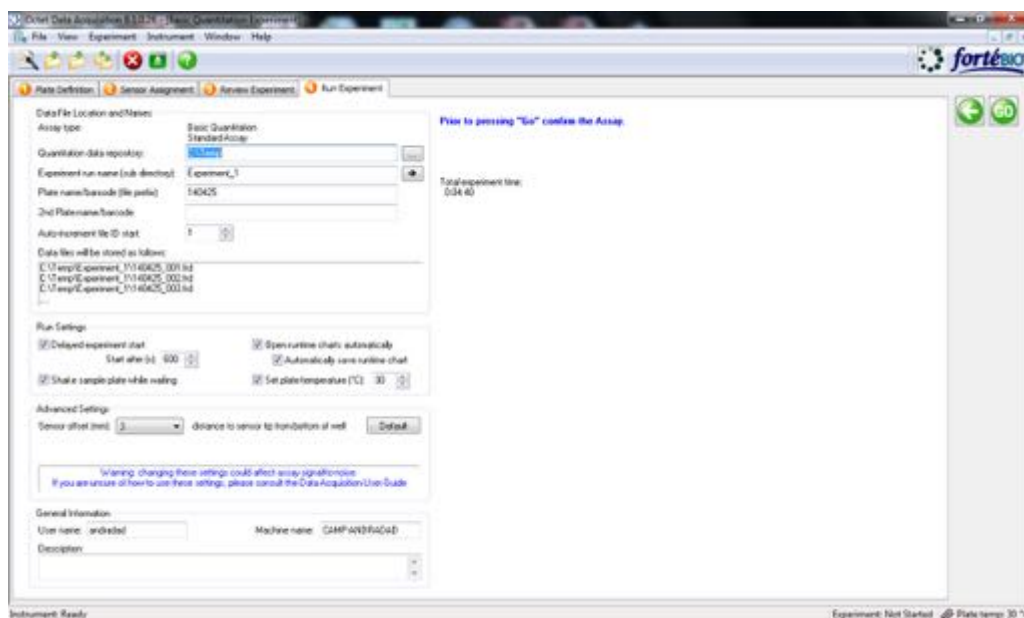

Figure 7-67: Run Experiment Window—Octet RED384
1. Click the **Run Experiment** tab, or click the arrow  to access the Run Experiment window (see Figure 7-67).